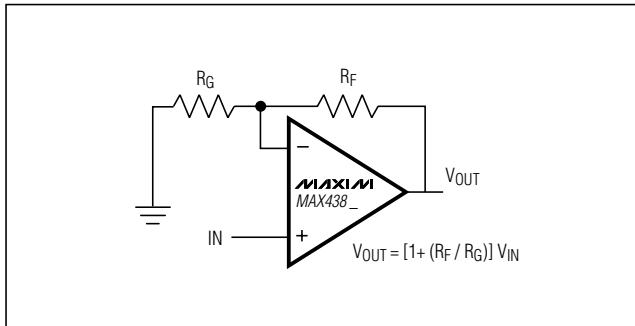

Figure 1a. Noninverting Gain Configuration
Select the gain-setting feedback (RF) and input (RG) resistor values to fit your application. Large resistor values increase voltage noise and interact with the amplifier's input and PC board capacitance. This can generate undesirable poles and zeros and decrease bandwidth or cause oscillations. For example, a noninverting gain-of-two configuration ($RF = RG$) using 1kΩ resistors, combined with 1pF of amplifier input capacitance and 1pF of PC board capacitance, causes a pole at 159MHz. Since this pole is within the amplifier bandwidth, it jeopardizes stability. Reducing the 1kΩ resistors to 100Ω extends the pole frequency to 1.59GHz, but could limit output swing by adding 200Ω in parallel with the amplifier's load resistor (Figures 1a and 1b).